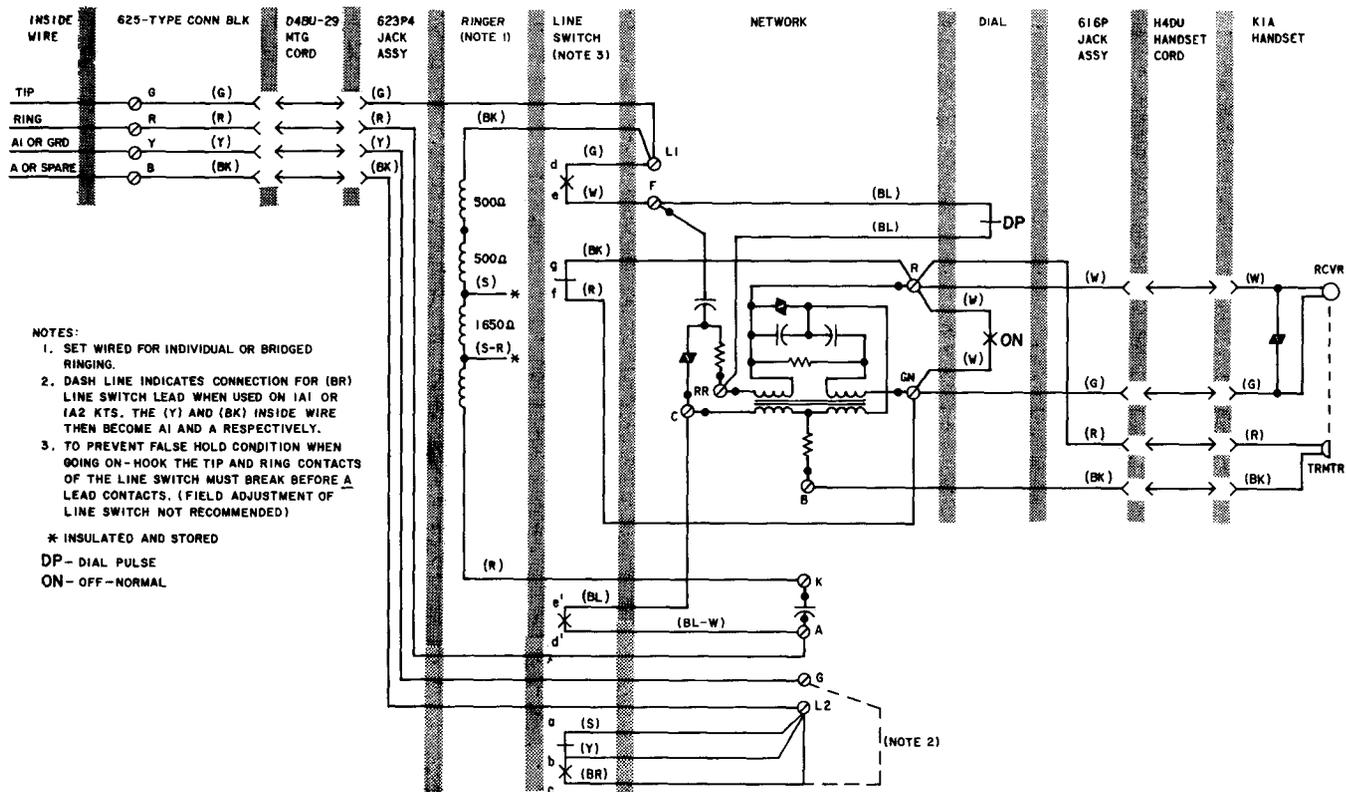

Fig. 7—9900B Telephone Set, Connections for Key or Nonkey
Note: For 900B or 2900B telephone set, the only modification needed is to move (BR) line switch lead from network terminal L2 and connect to terminal G. See Fig. 7 and 10.